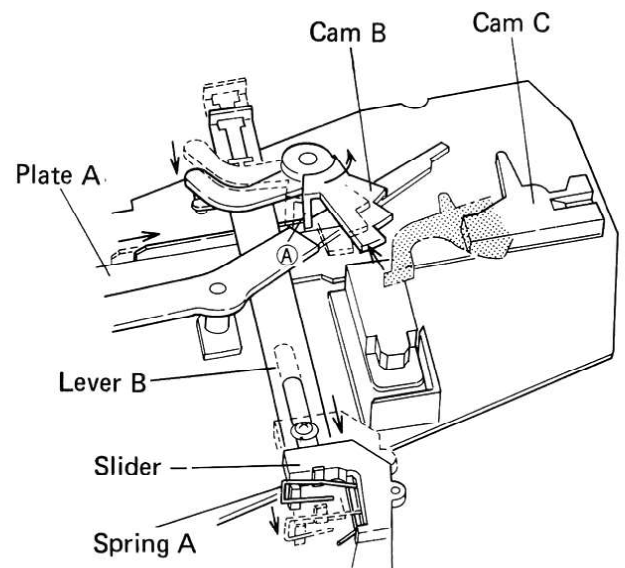

Fig. 8-9
5. And since gear A commences to rotate, plate A moves towards the tonearm, resulting in the plate A projection (point A) being pressed against cam B to turn the plate in the counter-clockwise direction (Fig. 8-9).
9. When plate A commences to return towards the rear, lever B is also pulled back by the action of spring A, and stops when it meets the slider. Cam B is also brought to a stop by this action (Figs. 8-9, 11).